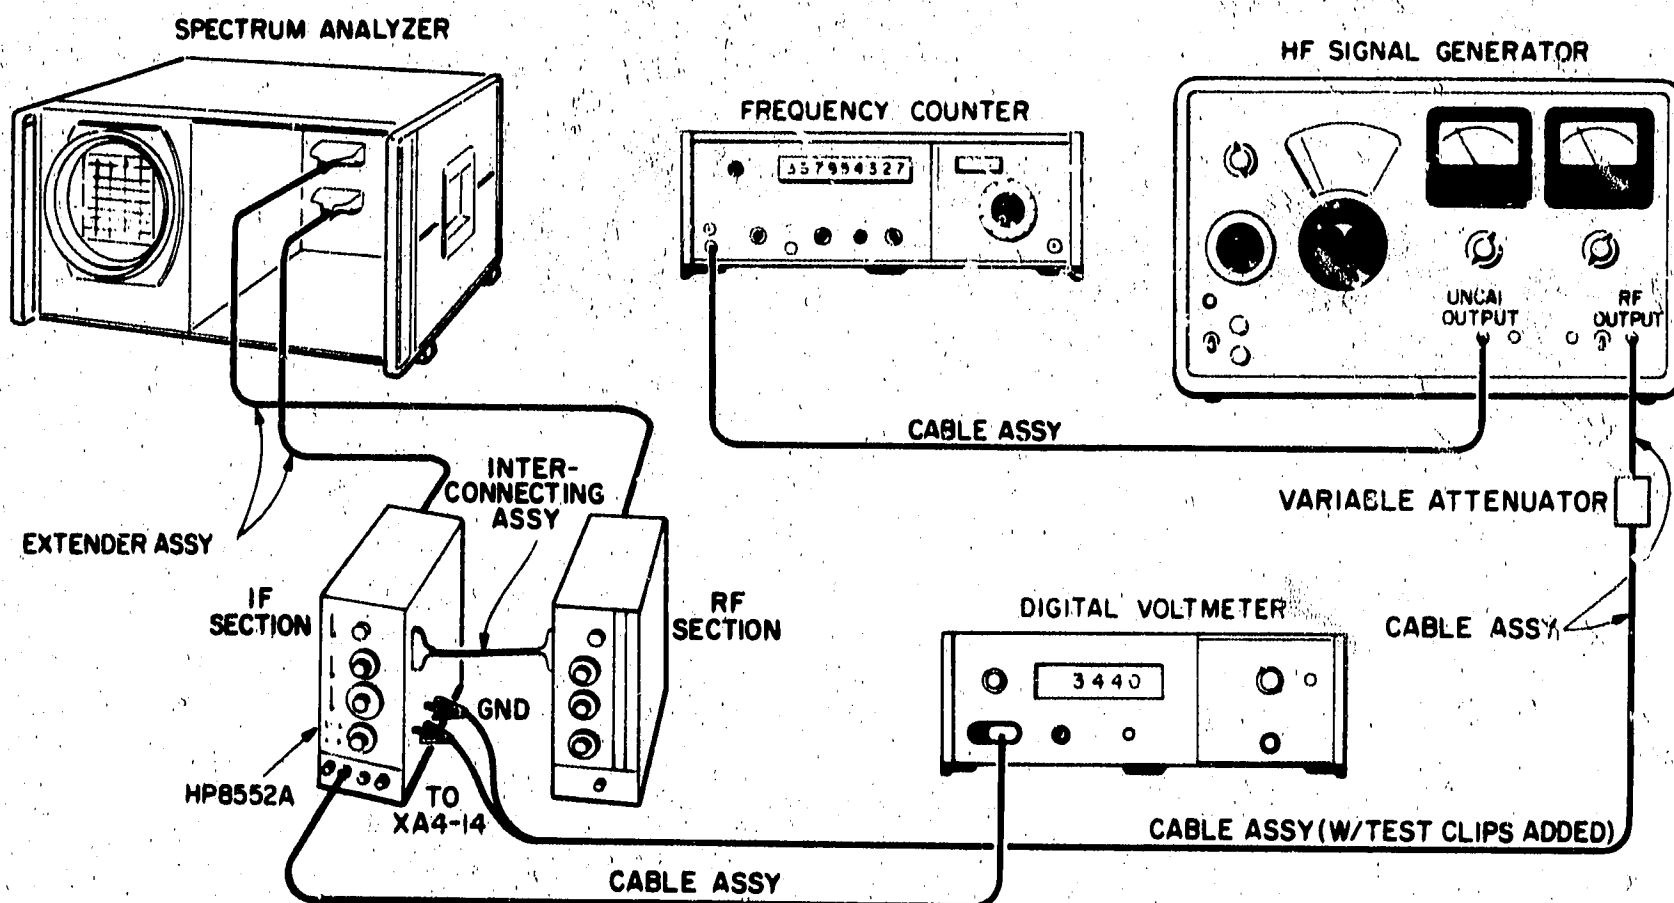

Figure 5-6. Log/Linear Amplifier Check and Adjustment Test Setup
2. Connect the test setup shown in Figure 5-6 and make the following control settings: